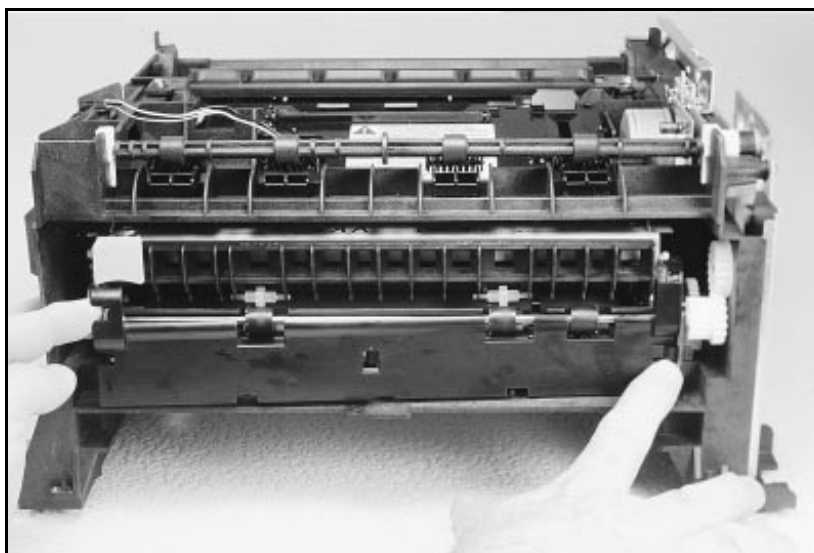

Figure 27 Removing the fuser cover.
2. Locate the black plastic fuser cover at the back of the printer. Press the release tab (callout **1** in Figure 27).
Figure 30 explains how to read the light sequences. The initial sequence (Part I) shows that ERROR 53 can be indicated by two different light sequences, depending on the X value: ROM (x =0) or in RAM (x =1) . Pressing GO and RESET/JOB CANCEL together produces a secondary light pattern, which reveals the Y- and ZZ-values, which complete the error code (Part II) . The binary Y value is read from the top two LEDS; the binary Z value is read from the lower three LEDS. Part III of Figure 27 shows the binary values of the different light combinations.